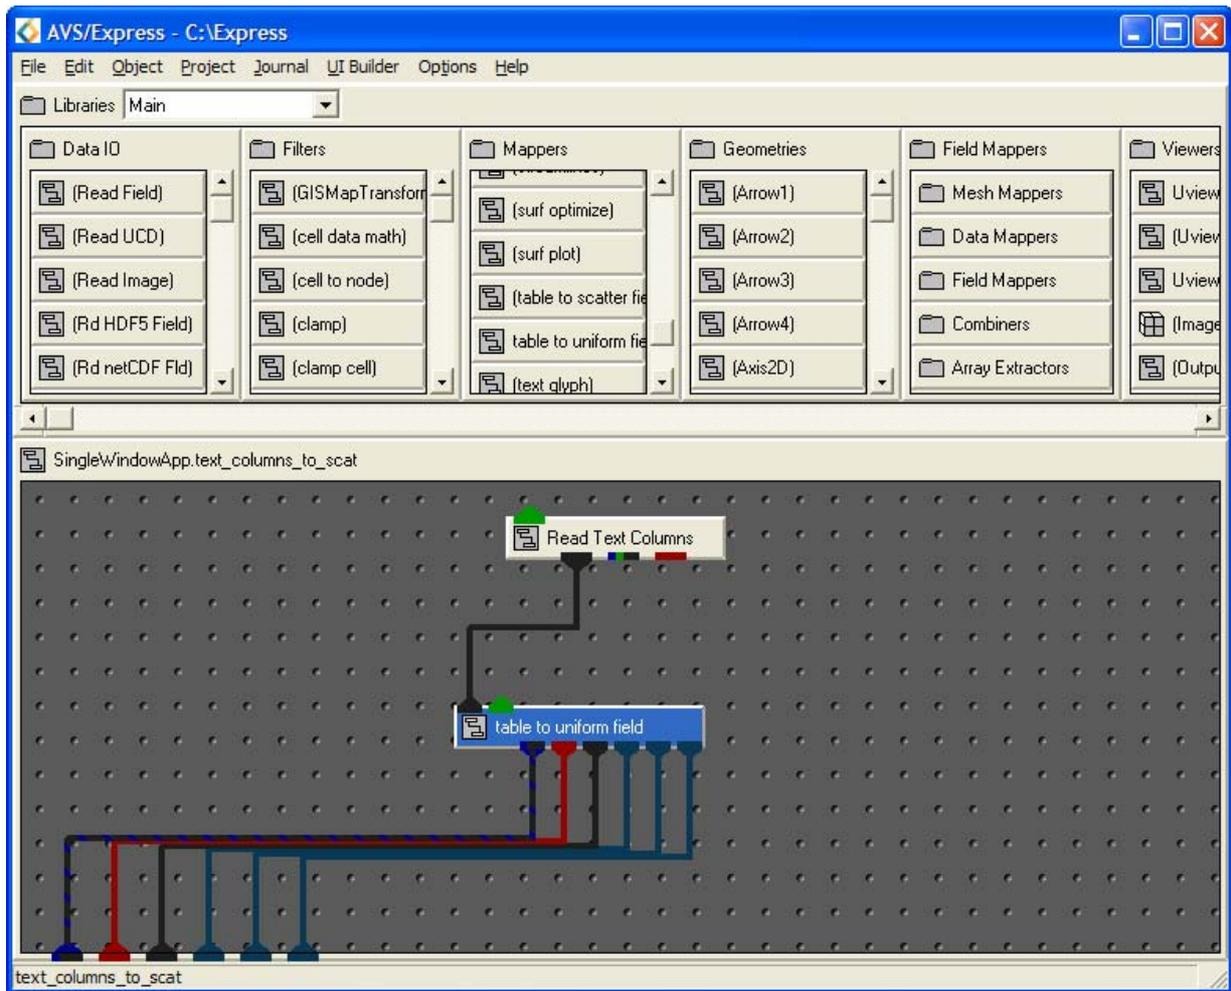

Figure C.30: New text columns to uniform Macro
- Drag and drop the `table to uniform` module in to the `text columns to scatter` macro network and connect to `Read Text Columns` as shown in Figure C.30.
- Connect all the output ports of the `table to uniform` module as shown in Figure C.30.